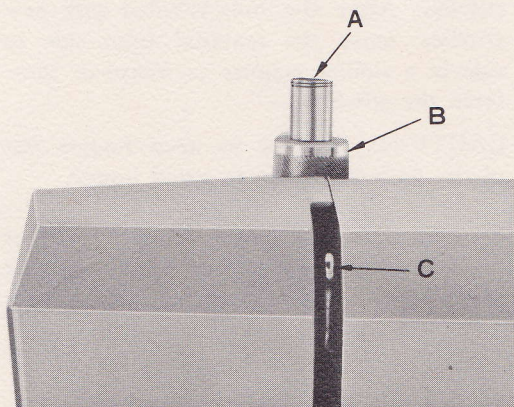

Fig. 12. Regulating Pressure on Material
See Fig.12
- NOTE: 1. Have take-up lever, (C) Fig. 12, at highest point before starting the sewing operation.
After threading the machine, place material and threads in position under the presser foot and lower the presser foot. With your right hand, turn the top of the hand wheel, (D) Page 2, toward you until the take-up lever (C) Fig. 12 is at its highest point. You are now ready to begin sewing. By having the take-up lever at its highest point, it is never necessary to touch the hand wheel to start the machine. You merely press the foot control (portable models) or knee control (cabinet models). The speed of the machine is regulated by increasing or decreasing the amount of pressure exerted on the control.
1. Attach darning foot with arm (A) at the back of needle clamp (B).
2. Release completely the snap lock darning, Fig. 12. Turn drop feed knob, Fig. 11, to "DARN" position. Machine is now ready for darning.
2. Release pressure on the snap lock darning, Fig. 12, by pushing down on release (B).
- B. Push down on snap lock darning (A) Fig. 12.